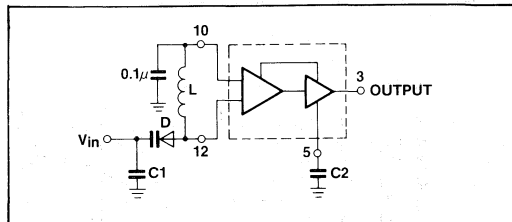

Fig.5 The SP1648 operating in the voltage-controlled mode (DIL pin numbers)
When operating the oscillator in the voltage controlled mode (Fig.5), it should be noted that the cathode of the varactor diode (D) should be biased at least 2 VBE above VEE (≈1.4V for positive supply operation).
Capacitors (C1 and C2 of Fig.5) should be used to bypass the AGC point and the VCO input (varactor diode), guaranteeing only dc levels at these points.